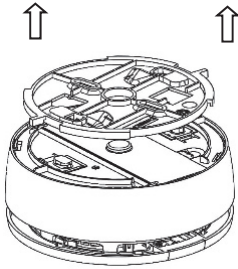

Figure 5
2. Remove the plastic mounting bracket from the detector (*see Figure 5*).
1. Remove the plastic mounting bracket from the detector (*see Figure 5*).